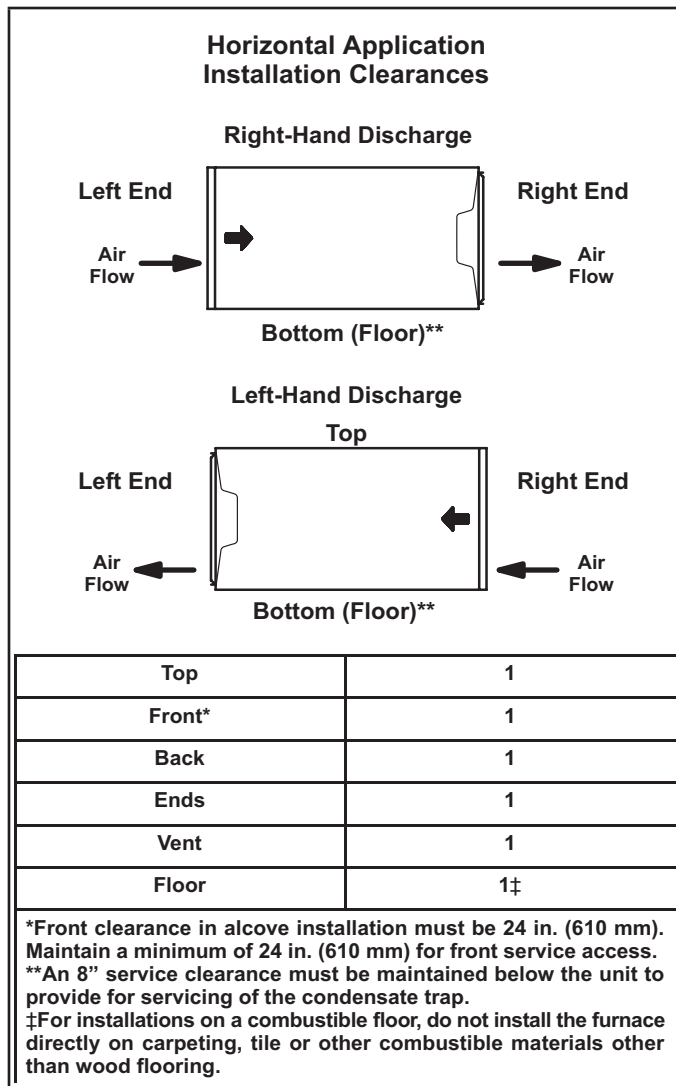

Figure 17
The EL195UHNE furnace can be installed in horizontal applications with either right- or left-hand air discharge. Refer to figure 17 for clearances in horizontal applications
- 1 - Select location for unit keeping in mind service and other necessary clearances. See figure 17.